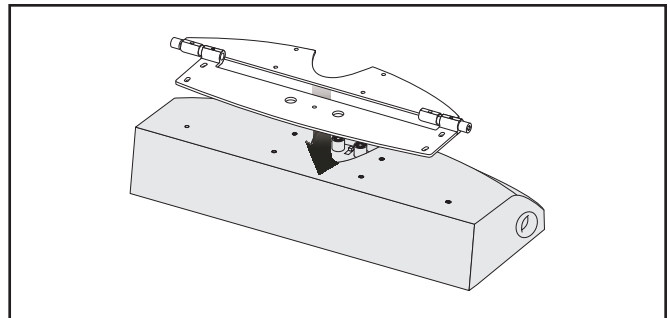

Figure 14. Align the 6 holes on the mounting bracket with those of the Vignette.
- 4 Align the 6 holes in the Vignette's wall mounting bracket with the holes on the back of the Vignette's cabinet. Please note that the wall bracket should lie flat against the Vignette cabinet with the hinges along the flat, straight edge of the cabinet (see figure 14).